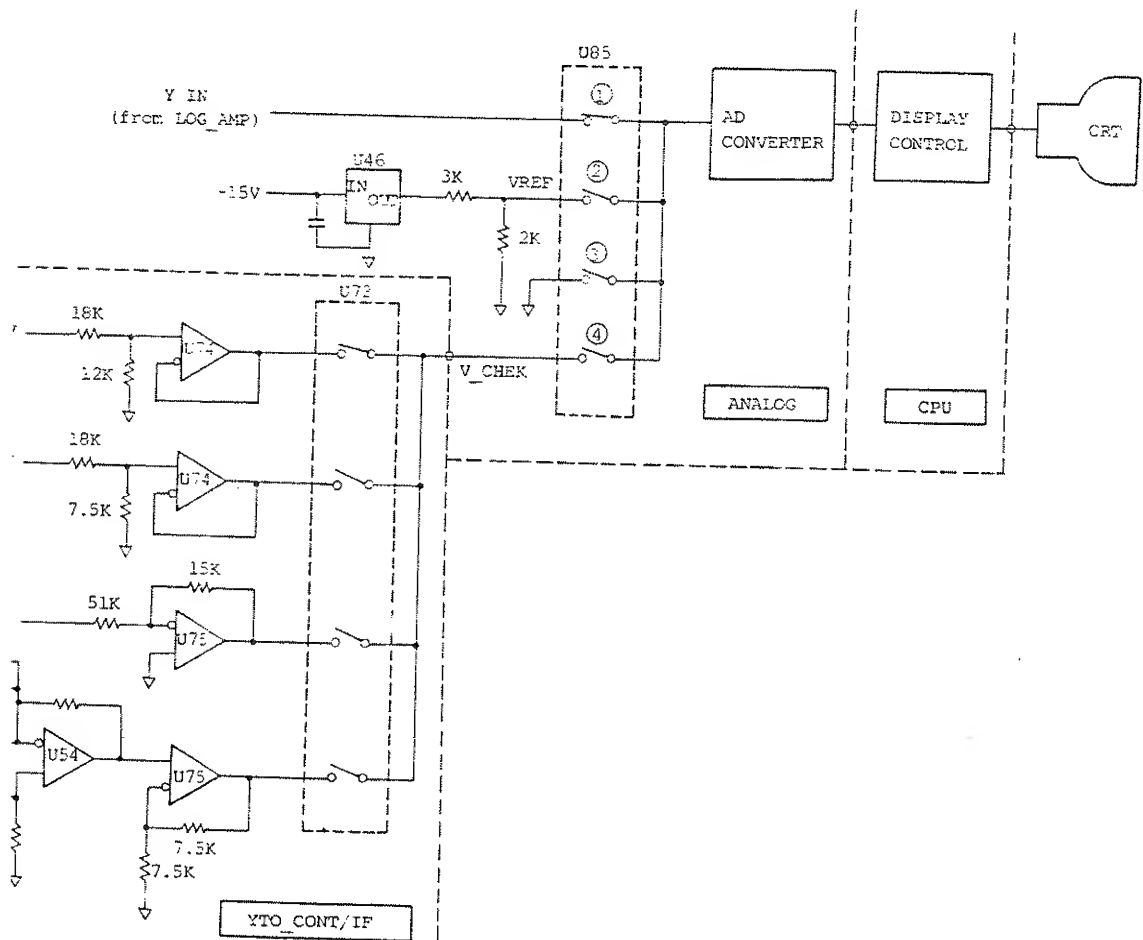

Figure 9-22 Analyzer Test
The R4131 Series has an adjustment function on the screen display. It generates a stable reference voltage and divides it into the 4 V reference voltage. The output is sent to the A/D converter and displayed on the top of the scale. The A/D gain can be adjusted by the 4 V power without DVM. The operator simply aligns the displayed line on the top of the scale. Similarly, adjust the A/D offset by setting the U85 switch to ③ (Figure 9-22) so that the displayed line is on the bottom of the scale.